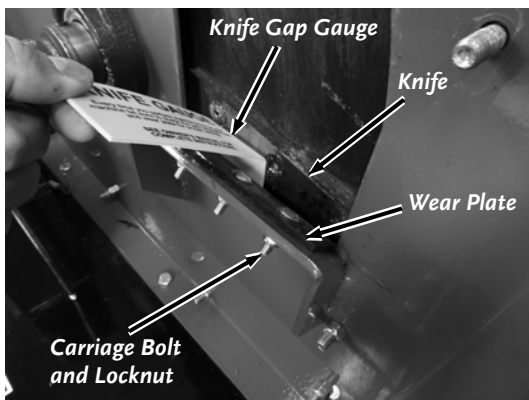

Figure 41
3. Slide the Knife Gauge in between the Knife and Wear Plate to check the clearance (**Figure 41**).